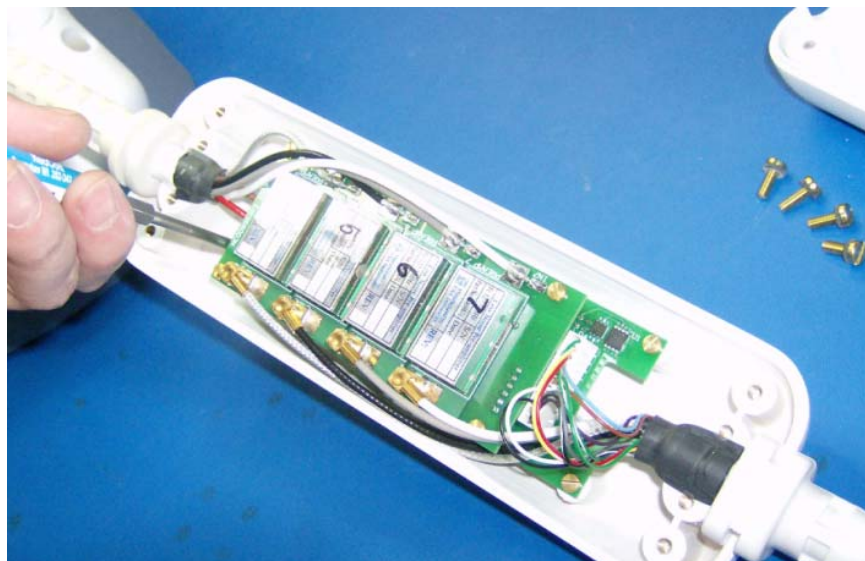

Figure 2. PCB screws
2. Note the Coil Serial Number and place the coil over the phantom as shown in Figure 2.
4. Landmark the phantom at the position shown in Figure 2 and advance to scan.
4. Remove screws from four corner locations on the large PCB (See Figure 2).